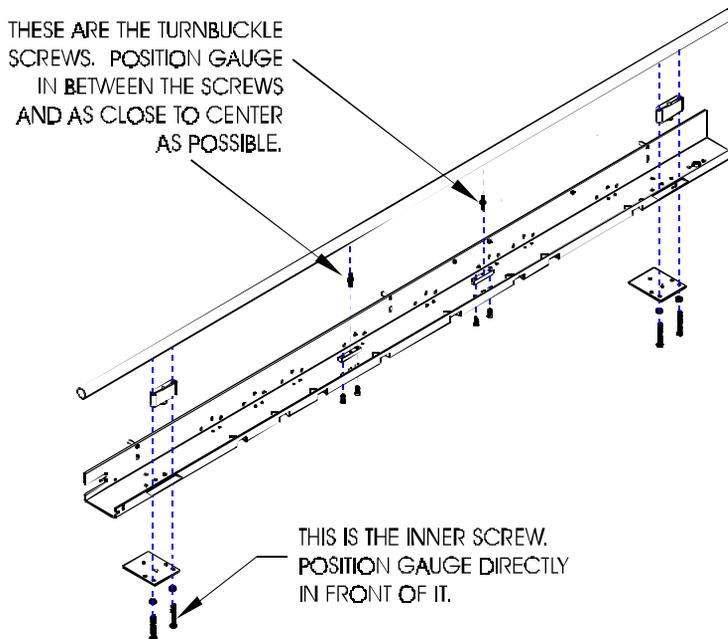

Figure 3-13. Slide Shaft Profile Adjustment.
- Measure just off the center of the slide shaft and adjust the center turnbuckle with an open ended wrench if required, for the average value (the value found in step 3.) See Figure 3-13.